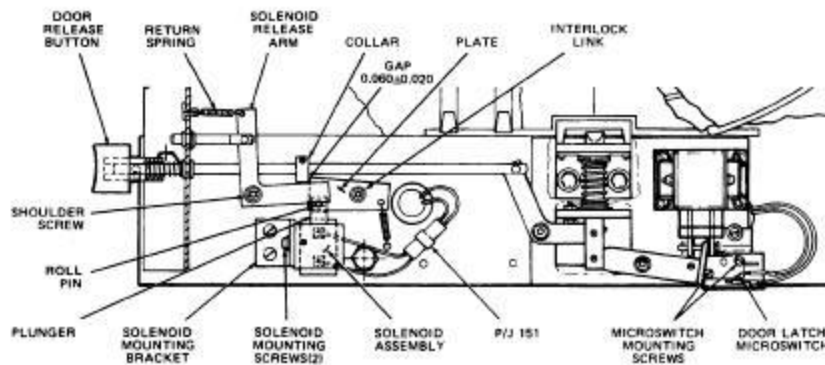

Figure 11-11. Door Latch Assembly
8. Remove solenoid release arm from centrifuge. Figure 11-11, as follows:
22. Reinstall the manual door release rod linkage. Figure 11-11. Apply a drop of lubricating oil to shoulder screw before tightening.
23. Press solenoid plunger to ensure pivot plate clears collar. Adjust so the gap between plate and the collar is 0.060 ± 0.020 inches. Figure 11-11.